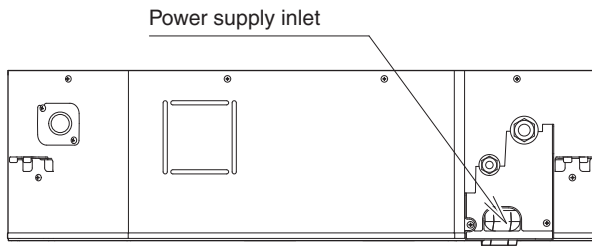

**Fig. 1-18**
- (1) Connect power to the power terminal board (L, N terminals) inside the electrical component box.
- (2) Slowly pour about 1,200 cc of water into the drain pan to check drainage. (Fig. 1-18)
- (3) Short the check pin (CHK) on the indoor control board and operate the drain pump. Check the water flow through the transparent drain pipe and see if there is any leakage.
- (4) When the check of drainage is complete, open the check pin (CHK) and remount the tube cover.
- (5) Checkpoint after installation